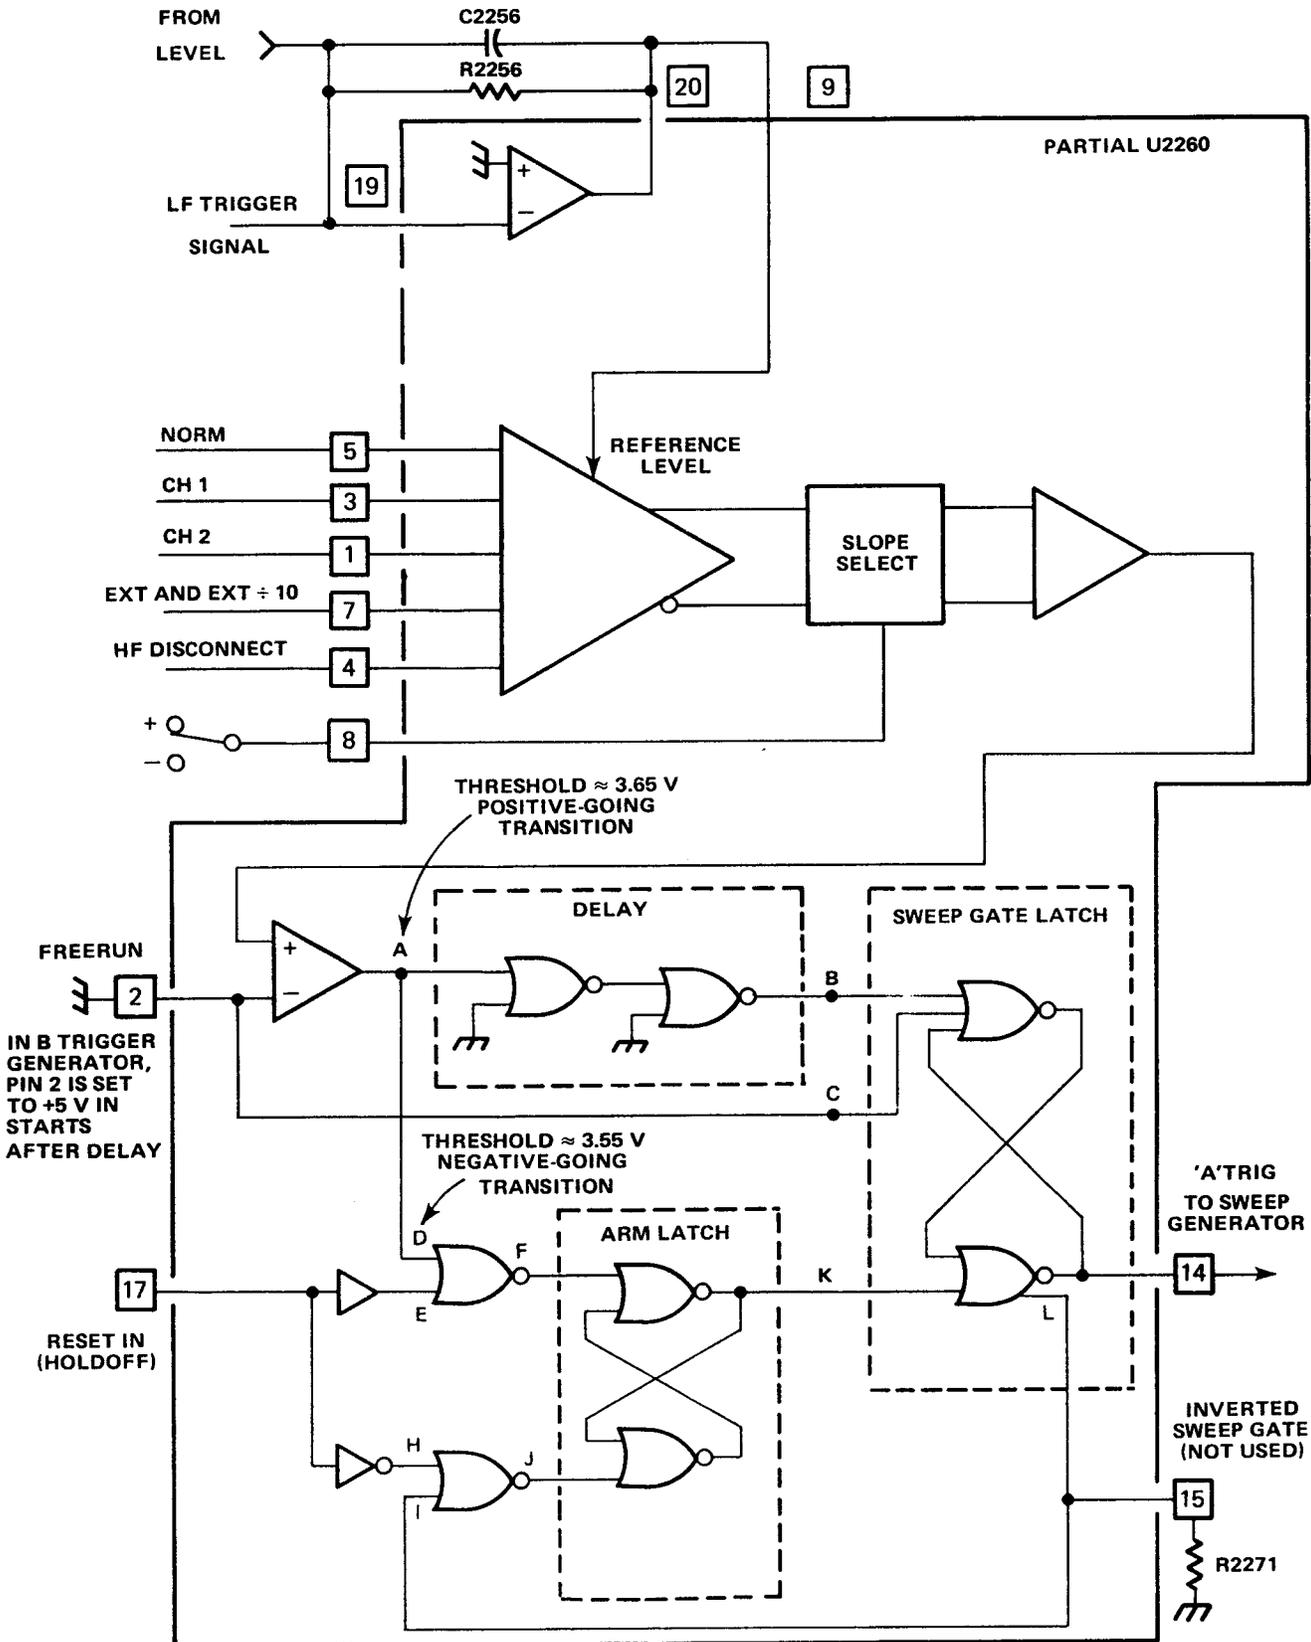

Figure 4-5. A trigger generator.
(2) A Trigger Generator. The A Trigger Generator consists of U2260 and associated circuitry. Figure 4-5 shows a simplified diagram of the A Trigger Generator.
(a) Sequence of Events During Trigger Generation. The following discussion will follow the sequence of events in the A Trigger Generator. Refer to Figure 4-5 throughout the discussion.
(b) Slope Selection. The slope of the trigger input signal, on which a sweep gate is generated, is determined by the voltage connected to pin 8 of U2260. When the voltage is negative, the signal at point A is inverted (see Figure 4-5).
(3) B Trigger Generator. The B Trigger Generator operates in the same manner as the A Trigger Generator except in the STARTS AFTER DELAY position of the HORIZ DISPLAY switch. In the STARTS AFTER DELAY mode, +5 volts is connected to pin 2 of U2160 through S2100 and S2650 (see Figure 4-5). This disconnects the trigger signal from point B, sets point D LO, and sets point C HI. At the end of holdoff, point E goes LO causing point F to go HI. This sets point K LO and, because of the HI always present on point C, causes a sweep gate to be generated.